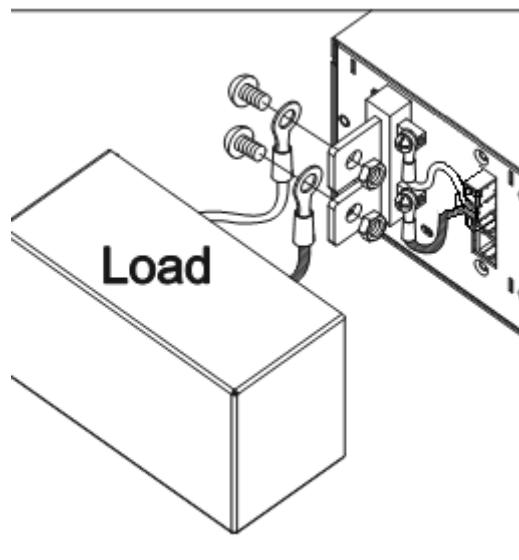

Figure 2-7
4. Connect the remote sensing wire of the 62020H-150S as shown in Figure 2-7.